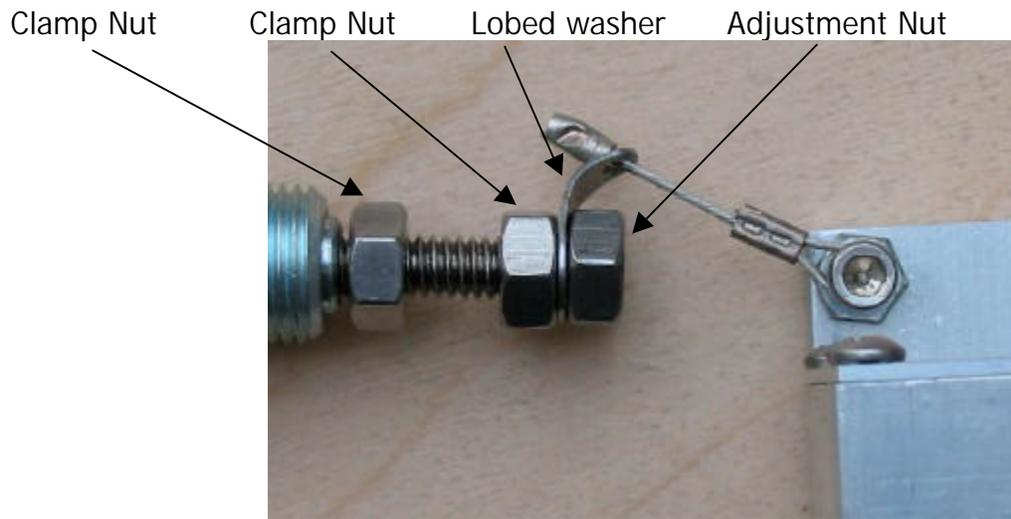

Figure 6 AZ clamp adjust cable
- 37) Set the toggle clamp to the "Manual" position (see figure 5). The internal "plunger" should be drawn into the clamp and thus away from the swivel plate. Place the lobed washer/cable from the AZ motor assembly onto the end of the threaded rod followed by the 1/4-20 nut. Do not worry about adjustments at this time. Keep it loose. See figure 6 below.
- 45) Tighten the 2 clamp nuts (see figure 6) one against the clamp body to ensure the rod does not loosen up. The other against the lobed washer/cable assembly on the threaded rod. DO NOT MOVE THE OUTSIDE ADJUSTMENT NUT - only the inside.